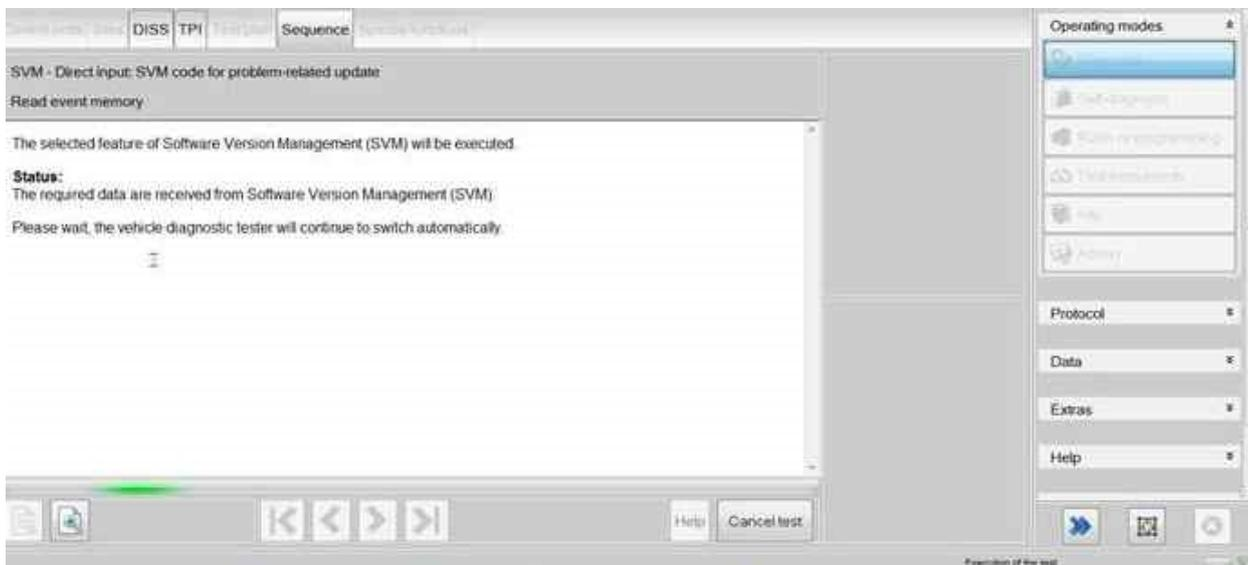

Figure 15
- The SVM action will then take place (Figure 15)